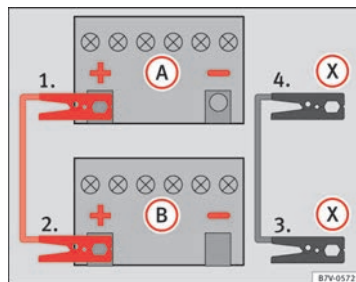

Fig. 220 Diagram of connections for vehicles with Start Stop system
- **For vehicles with Start-Stop system:** Connect one end of the *black* jump lead (X) to a suitable ground terminal, a solid piece of metal in the engine block, or to the engine block ⇒ Fig. 220.
5. Connect the other end of the *black* jump lead (X) to a solid metal component bolted to the engine block or to the engine block itself of the vehicle with the flat battery. However, connect it to a point as far as possible from the battery (A).